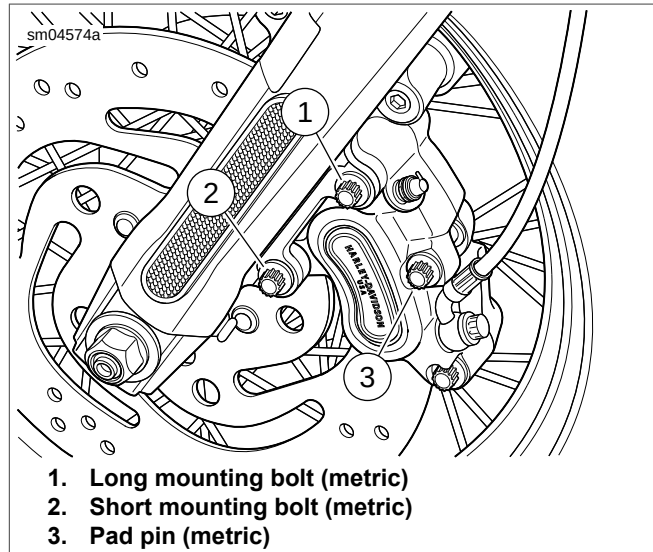
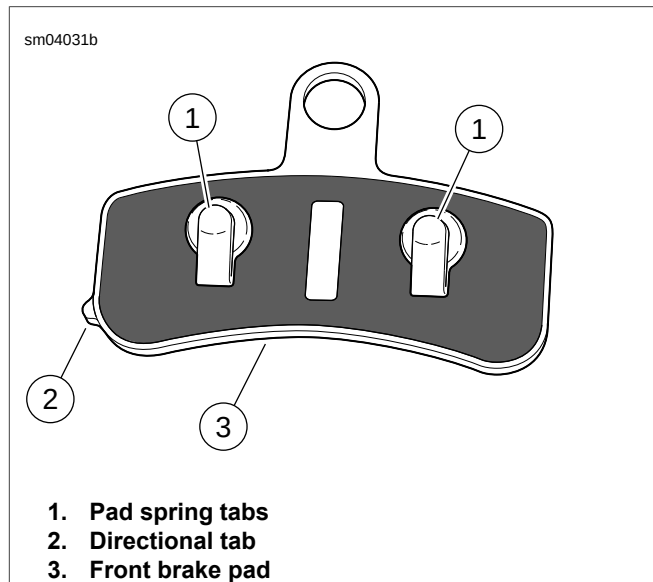
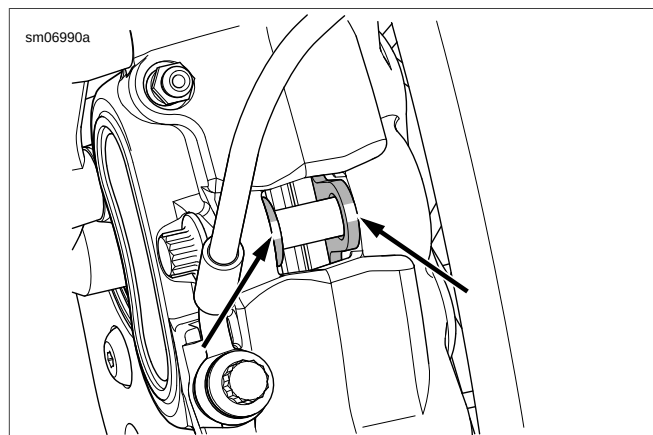

Figure 1-35. Front Brake Caliper (Left Side Shown)
Figure 1-36. Front Brake Pads
Figure 1-37. Softail Front Pad Indicator Markings
1. See Figure 1-35. Loosen, but do not remove bridge bolt/pad pin (3) (metric).
- See Figure 1-36. Make sure the pad spring tabs (1) on brake pad engage the pad springs in the pistons.
- If the directional tab (2) does not face down when caliper is installed, brake noise may develop.
- See Figure 1-37. Front brake pads with a white marking on each brake pad must be used. These brake pads have an isolator pad installed on the back of the brake pad.
7. Install **new** pads into caliper. The directional tab (2) must face down when caliper is installed.
- a. See Figure 1-35. Place caliper over brake disc with bleeder valve facing upward.
- c. Loosely install long mounting bolt (1) (metric) into upper hole on fork leg.
- d. Install short mounting bolt (2) (metric) into lower hole on fork leg. Tighten bottom mounting bolt to 28-38 ft-lbs (38.0-51.5 Nm).
- f. Final tighten center bridge bolt/pad pin (3) to 15-16 ft-lbs (20.4-21.7 Nm).